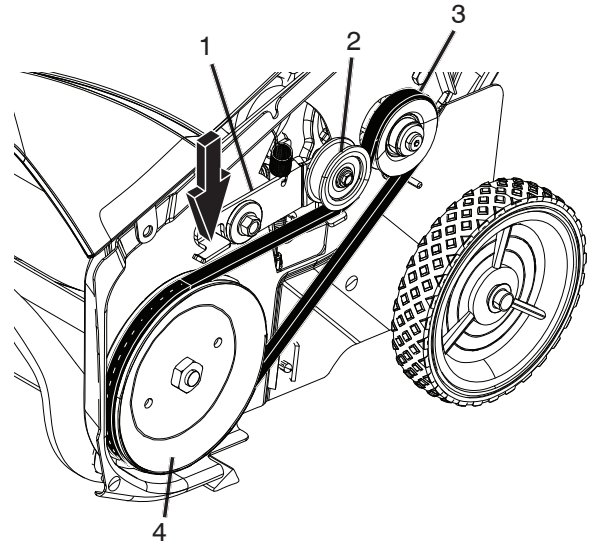

Figure 31
2. Press down on front of idler arm to release the belt tension (Figure 31).
3. Remove the drive belt from the drive pulley (Figure 31).
4. Install the new drive belt, routing it as shown in Figure 31.
NOTE: Route the new drive belt first around the engine pulley, then the idler pulley, and finally around the drive pulley while pressing down on the front of the idler arm. (Figure 31).